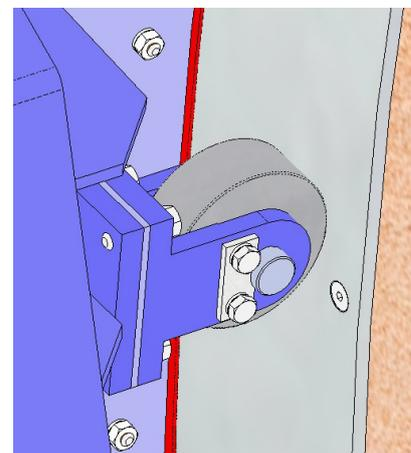

Fig. 13
- Remove the chocks positioned provisionally on the stopboard in order to check alignment relative to the channel and mount the side guide wheels (fig. 13). When bolting these side guide wheels, they can be adjusted to the rolling strips by inserting intermediate chocks of different thicknesses.